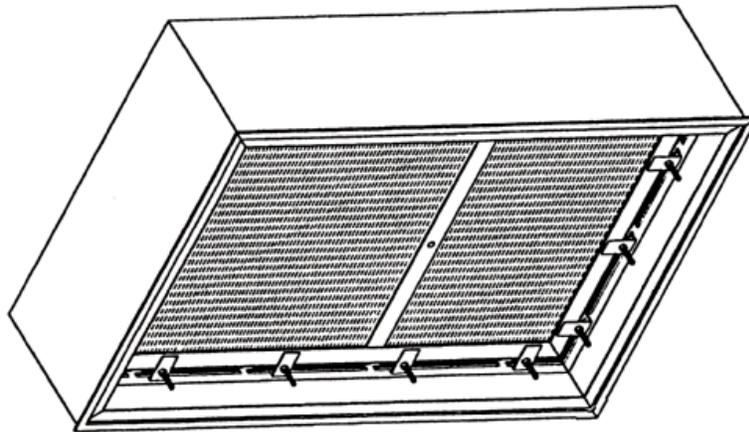

Figure 4A. Installed filter with retaining clips in place, putting pressure against filter's gasket or gel seal.
- k. Carefully lift the filter up to the diffuser, taking caution to handle the filter by its flange and frame only, and not to touch the filter's media, as the media is very delicate. Installer may also use the filter's aluminum centerboard as another place to hold the filter (if required). Push the filter's gasketed flange or gel seal into the diffuser's "knife edge". Secure the filter and create an airtight seal of the interface by turning the angle clips perpendicular to the filter's flange to hold filter in place. The second installer should use a screw gun with a 7/16" hex-head deep well socket to tighten the nuts on the retaining bolts such that the clip begins to deform slightly. It is recommended that the end clips be tightened first, followed by the side clips. See a filter which has been correctly installed in Figures 4A & 4B.